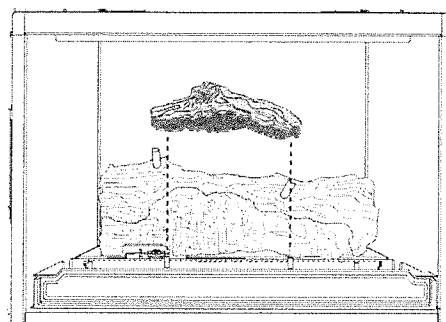

Figure 25. Place middle log on the two center pegs.
2. Set the Middle Log in place on the burner plate pegs as shown in fig. 25.